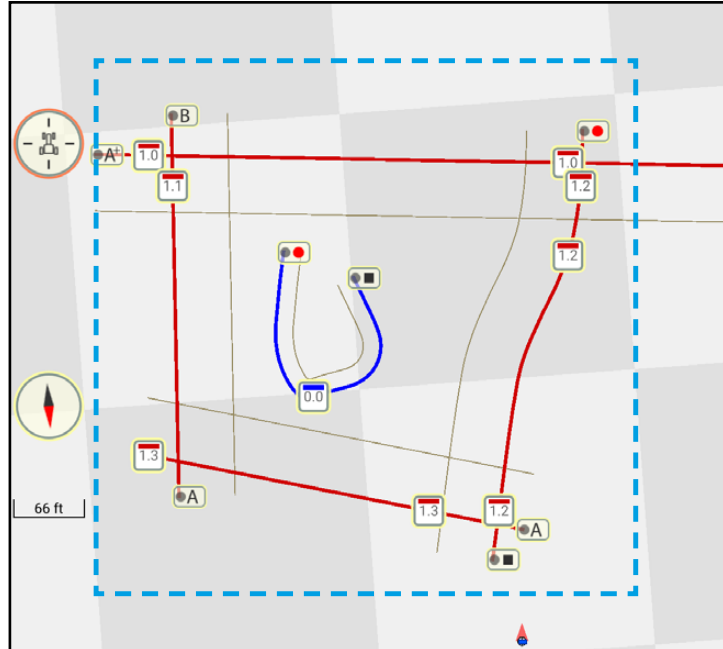

Fig. 48: Boundary lines open and not active
- Open and not active (see Fig. 48),